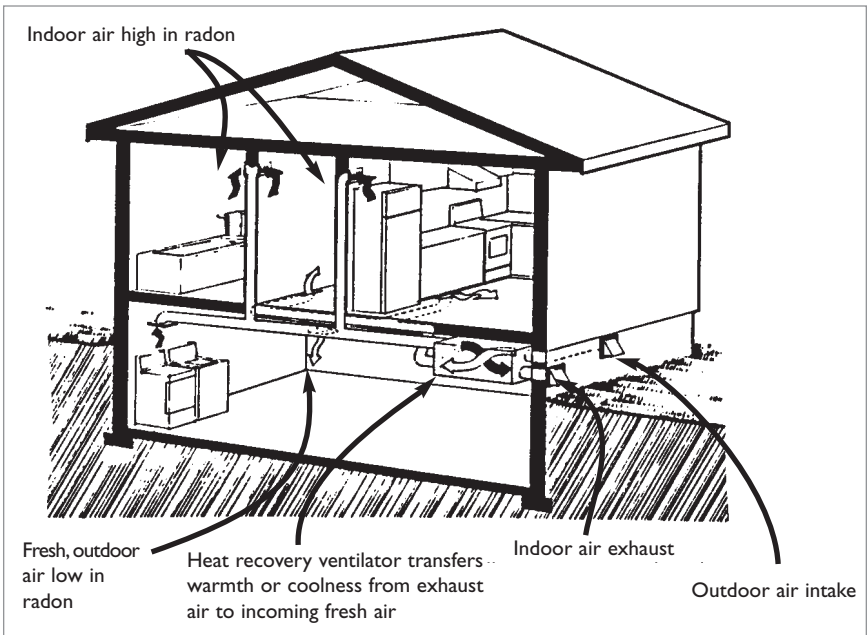

Figure 14: Increasing ventilation with a HRV
Rather than relying upon natural air movement to remove radon from a home, mechanical ventilation can be used. A system with balanced intake and exhaust air flows is essential so that the house is not depressurized, which may draw in more radon. This can be accomplished by installing a heat recovery ventilator (HRV) (*see figure 14*).
- Install a balanced ventilation system, such as a heat recovery ventilator (HRV). A balanced system relies on both supply and exhaust fans to provide ventilation (*see* figure 14, page 23). An HRV will reduce the energy penalty associated with providing more ventilation to a home.